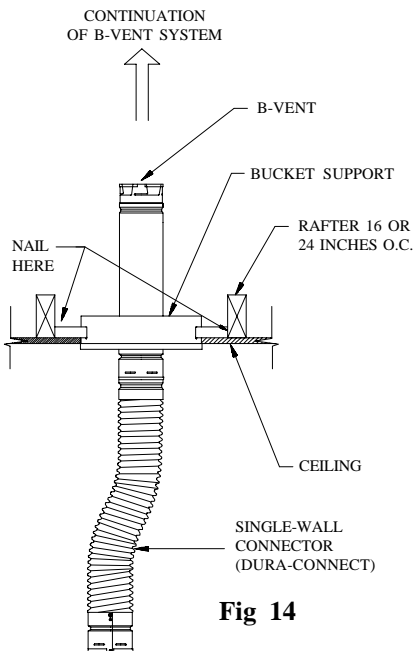

Fig 14
2. **Assembly.** After you have determined where the B-vent should be located, assemble the **Bucket Support** and **Brackets**. Nail the assembly to the bottom side of the joist material as shown in Figure 14. After the **Support Bucket** is in place, scribe and cut out a hole in the sheet rock 1/8" larger than the diameter of the **Bucket**, and